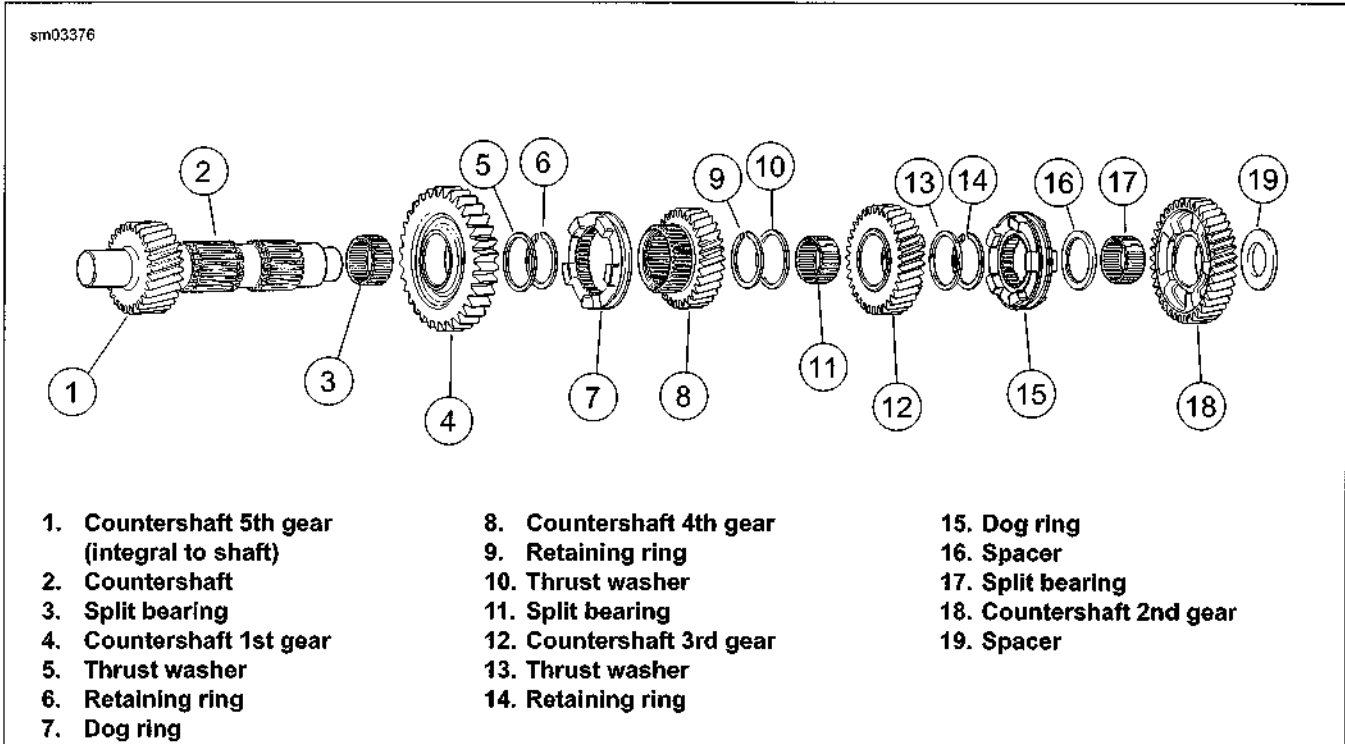

Figure 5-38. Transmission Countershaft Assembly Once Removed from Left Crankcase/Disassembly
1. See Figure 5-38. Remove spacer (19) and 2nd gear (18) from the end of the countershaft (2). Remove and discard split bearing (17).
2. Remove spacer (16).